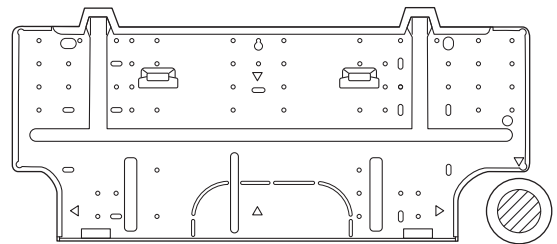

Fig. 13a
- (1) Attach the rear panel to the wall with the 8 screws provided. (Fig. 13a, 13b or 13c)